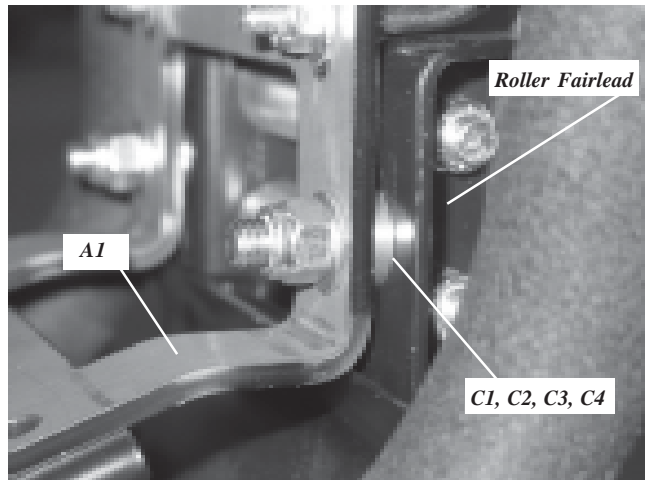

Figure 5: Assemble roller fairlead to winch mounting plate
5. Assemble roller fairlead to winch mounting plate (A1) using two, 3/8-16 x 1.50 hex head bolts (C1); two spacers (C2); two 3/8" flat washers (C3) and two 3/8-16 lock nuts (C4). Tighten 3/8-16 bolts to 40.7 Nm (30 lb ft). Next, tighten 1/4-20 u-bolts to 10.8 Nm (8lb ft). See figure 5.